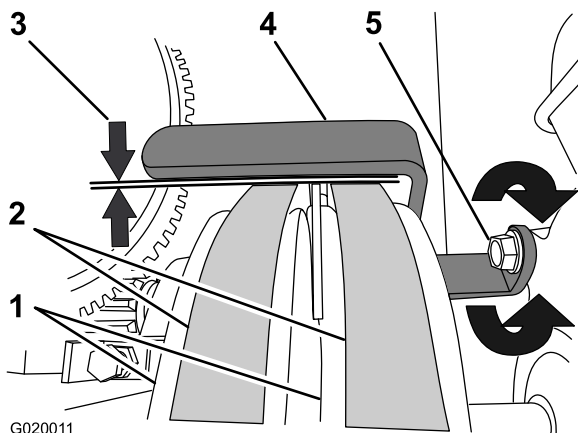

Figure 68
3. Check that the air gap between the belt guide and the belts is 2.5 to 4.0 mm (3/32 to 5/32 inch); refer to Figure 68.
- C. Tighten the bolt that secures the belt guide to the engine (Figure 68).
- A. Loosen the bolt that secures the belt guide to the engine (Figure 68).
- B. Rotate the belt guide up or down until there is an air gap of 2.5 to 4.0 mm (3/32 to 5/32 inch) between the guide and each belt (Figure 68).